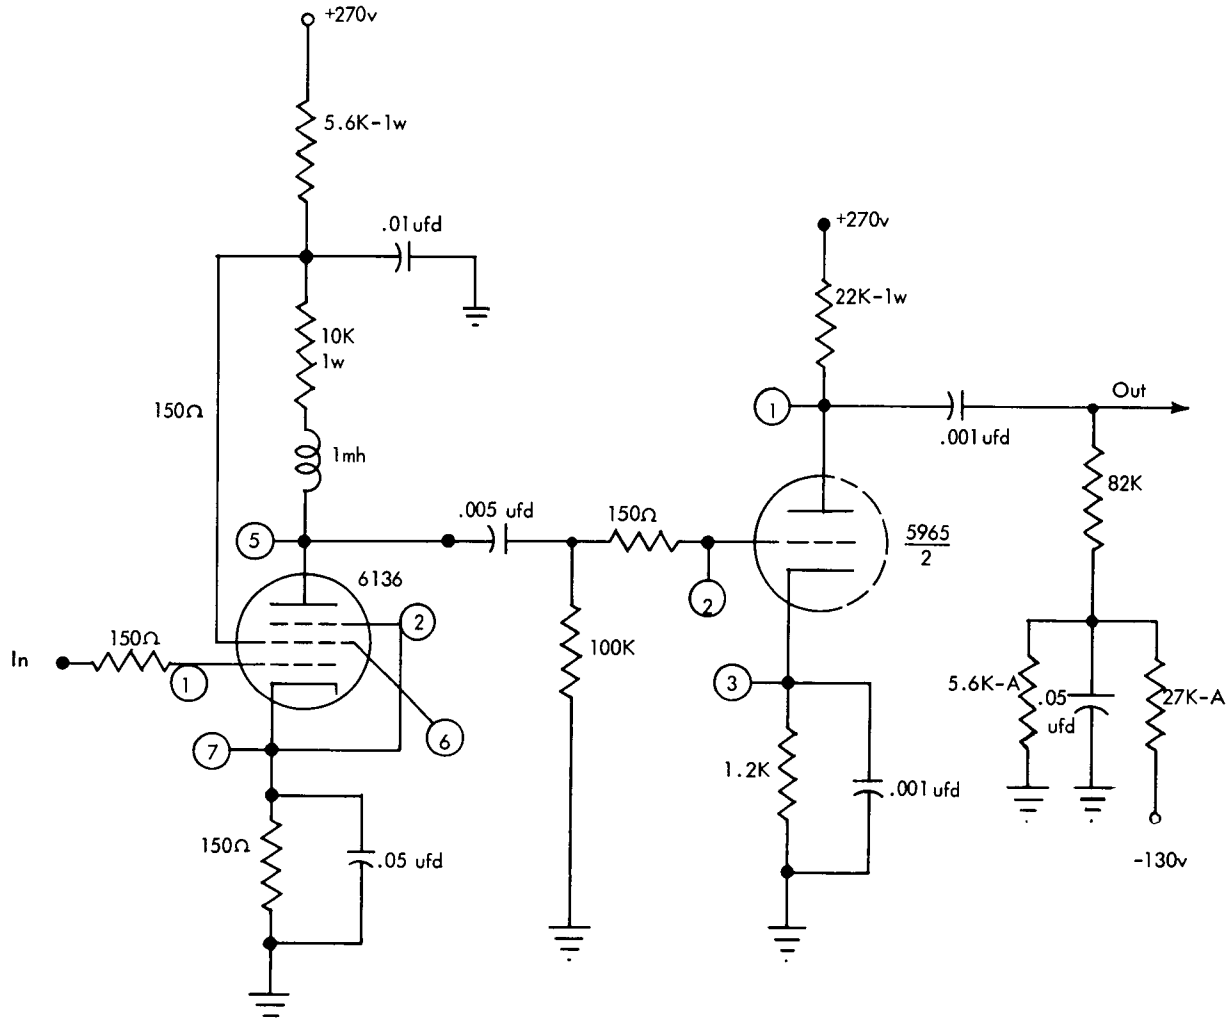

FIGURE D42. READ AMPLIFIER, CORE - AR_C
The read amplifier (core), AR_C, (Figure D42) is used to sense the output of the buffer memory in the 760. The AR_C is composed of a pentode driving a triode which in turn is AC-coupled to a standard cathode follower (K). The input of the AR_C is the rectified output of a pulse transformer. The rectifier is composed of the secondary of the pulse transformer and two type F diodes. The rectified signal is applied to the grid of the class-A-operated triode-connected pentode. The bias for this stage is obtained by a by-passed cathode resistor.